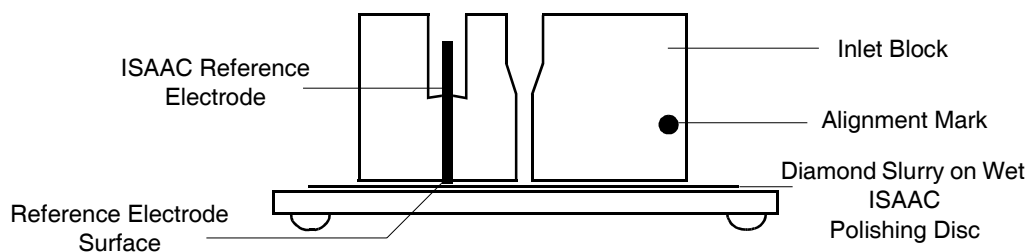

Figure 4-4 Polishing the ISAAC Reference Electrode
4. Gently polish the reference electrode surface as follows until the shining metal appears (Figure 4-4):
- e. Applying only gentle pressure, polish the electrode with a ‘figure 8’ motion for a few minutes (Figure 4-4) until the shiny silver surface appears. Do not press down; allow the weight of the block to do the work. If the brown coating remains, apply more pressure and repeat the polishing. If you cannot remove the coating, the electrode is below the surface of the block; replace the inlet block.